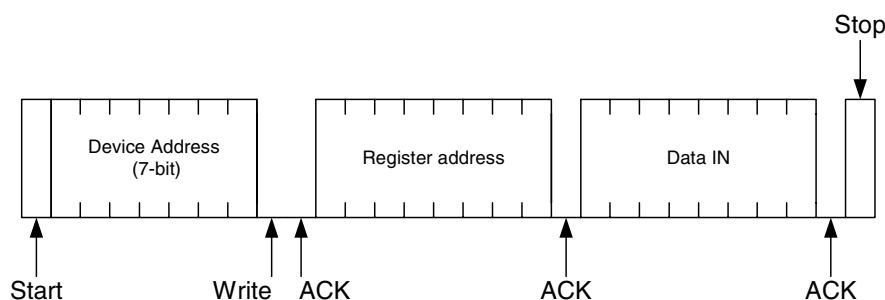

Figure 7-8 2-wire write operation example
3. Example of a 2-wire start stop access is shown in Figure 7-8.
Figure 7-8 illustrates a simple write operation, where one byte is written to the ATX chip.